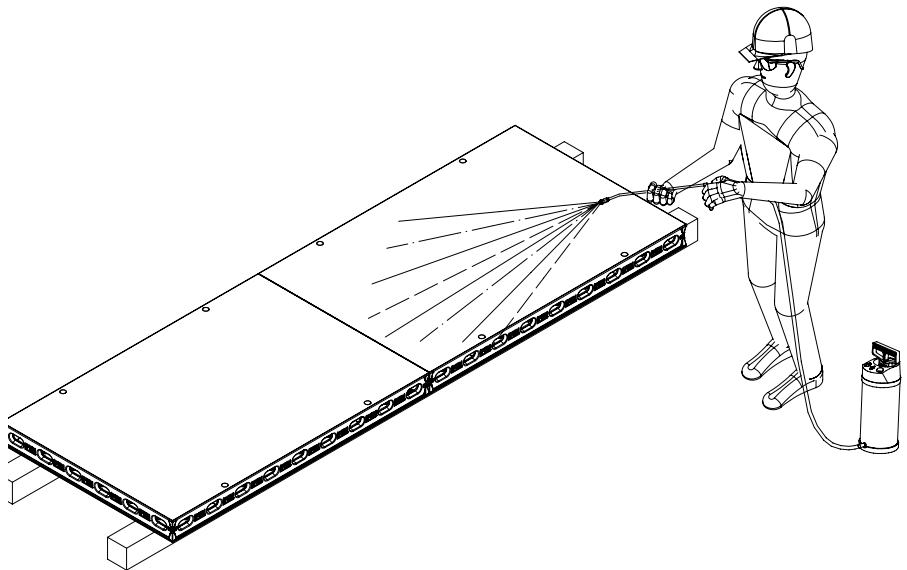

Fig. E1.01
- There is no chemical reaction between the composite material and concrete. In order to minimise the cleaning effort and reduce the wear of the formlining, spraying all parts with PERI Plasto Clean release agent before every use is recommended; alternatively, using a wax or solvent-based release agent is also possible. (Fig. E1.01)